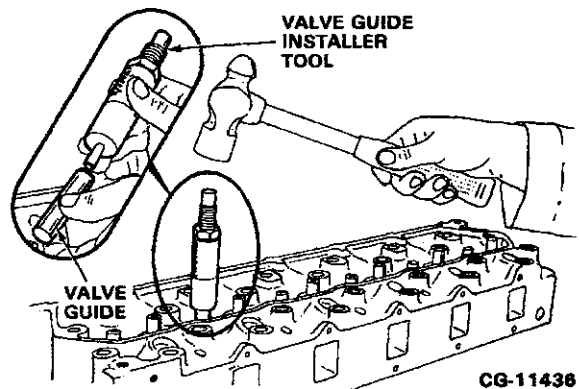

Figure 4.37. Install Valve Guide
- b. Lubricate the valve guide insert using clean engine oil and drive into the cylinder head until the installer tool bottoms against the cylinder head. Refer to Figure 4.37.